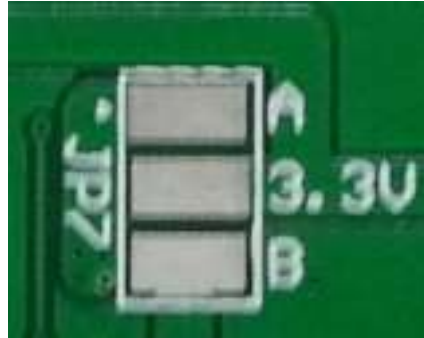

Figure-9: JP7 soldering can select 3.3V PCIe power supply to host/device side
JP7 on the device (B) side selects 3.3V power supply to PCIe host side and device side. In the figure-9, center pad is connected to 3.3V power supply source of this adapter board. And short to the upper pad by solder can supply 3.3V to the host (A) side PCIe power supply, while short to the lower pad can supply 3.3V to the device (B) side PCIe power supply. Factory default setting is short between center and lower pad, so 3.3V is supplied to PCIe device side only.